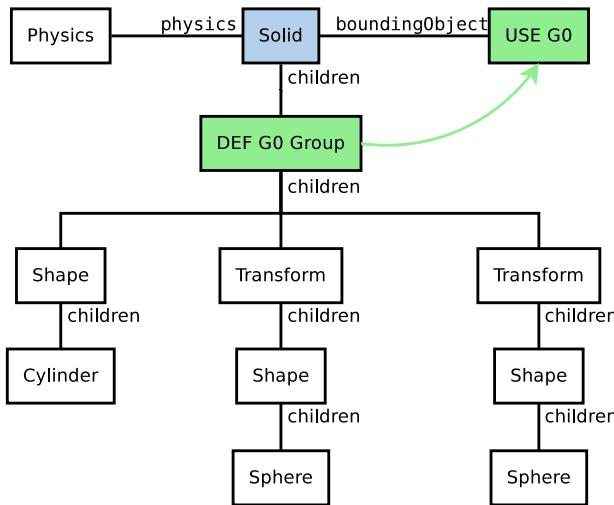

Figure 7.12: Representation of the subnodes of a compound solid made of several transformed geometries.
We want to implement a dumbbell made of a handle (Cylinder) and of two weights (Sphere) located at each end of the handle. The figure 7.12 depicts the Solid nodes and its subnodes required to implement the dumbbell.
*Create the dumbbell by following the figure 7.12. Create the handle first without placing it in a Transform node (so the handle axis will have the same direction as the y-axis of the solid). The handle should have a length of 0.1 m and a radius of 0.01 m. The weights should have a radius of 0.03 m and a subdivision of 2. The weights can be moved at the handle extremities thanks to the translation field of their Transform nodes.*